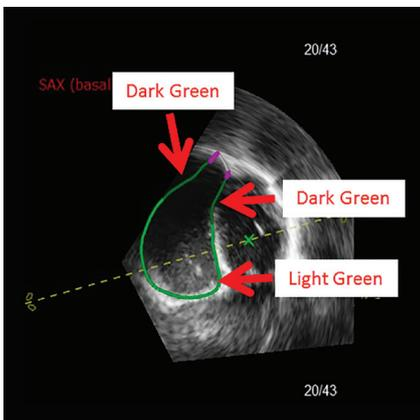

Figure 6 SAX view with pulmonary valve side-cutting.
- Additionally, valve annulus geometry can be modified (purple: pulmonary valve, blue: tricuspid valve) (**Figure 6**).